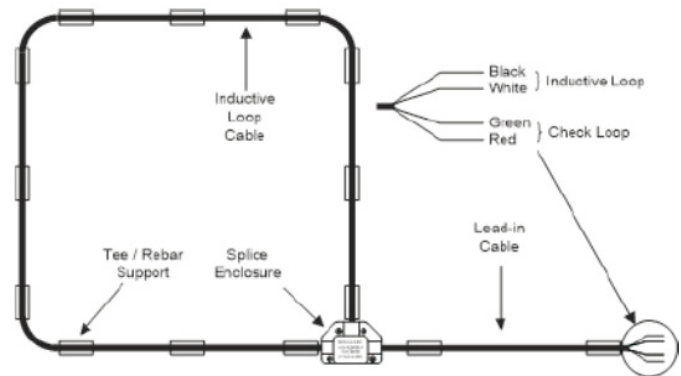

Figure 1
3. Cut an appropriate number of 1/2" poly tees as shown in Figure 1. Cut an equal number of lengths of 3/8" rebar.